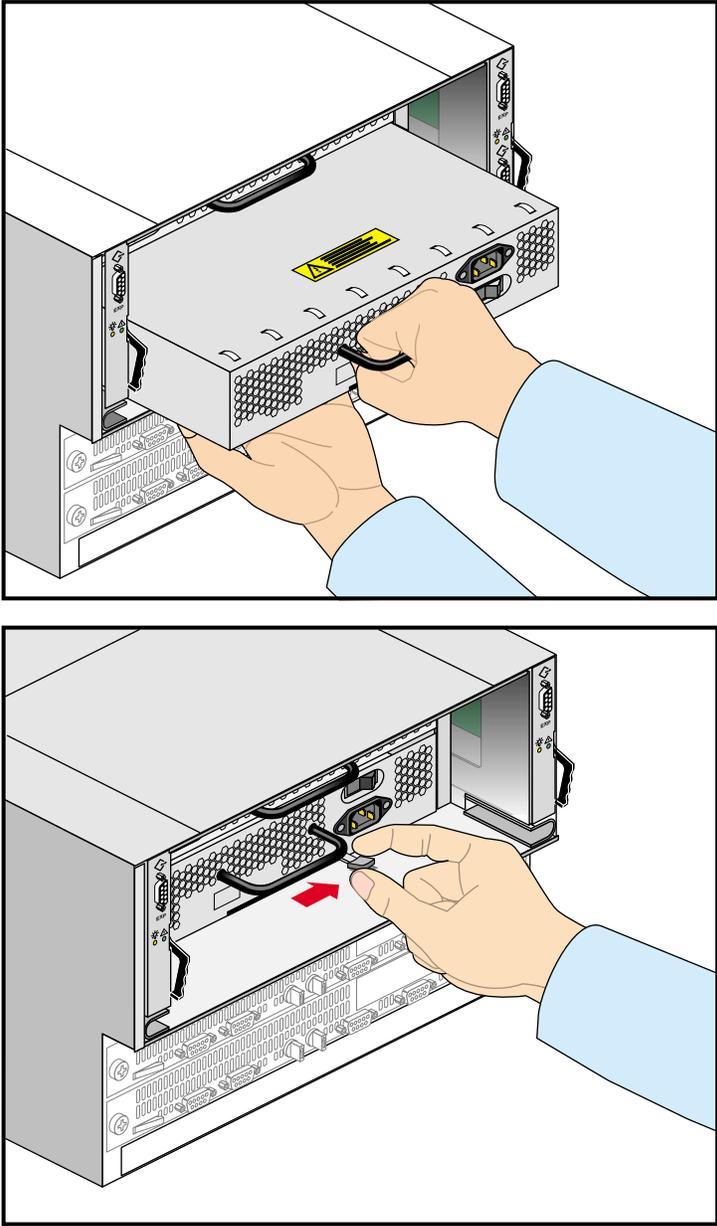

Figure 4-13 Installing the Bottom Fibre Channel RAID Power Supply
7. Push the supply into place until you see the latching lever move toward the latched position (see Figure 4-13).